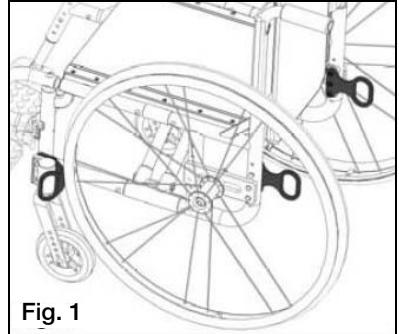

Fig. 1
- Attach wheelchair tie-downs to the four securement points (two front, two rear) on the Rogue ALX Series / Little Wave Series wheelchair with the Transit Option (Fig. 1) in accordance with the wheelchair tie-down manufacturer's instructions and **RESNA WC-4:2012, Section 18 or ISO 10542-1:2012 - Part 1.**